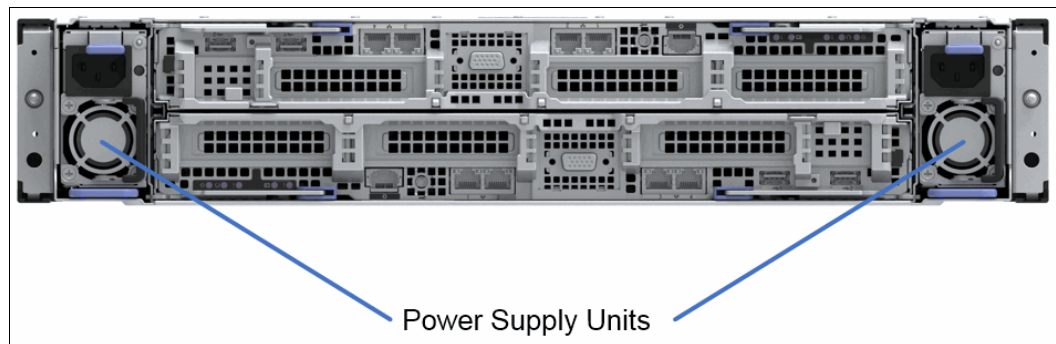

Figure 6-7 Control enclosure power supply units
13. Connect the power cords to the power supply units in the control enclosure. See Figure 6-7. Use the cable retainers to secure the power cables from being accidentally pulled out of the enclosure. The cable retainer, which is on the back of each power supply unit, has a curved opening that faces the rear of the power supply unit. After you plug the power cables in to the power supply unit, slip the power cable behind the retainer. Then, pull the cable back into the retainer opening to secure the cable.